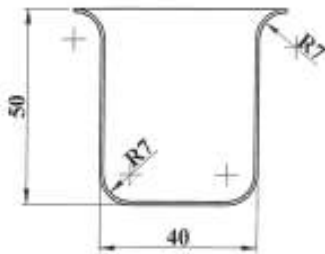

Fig: 3
4. Design a drawing die for the shell shown in fig. 3.